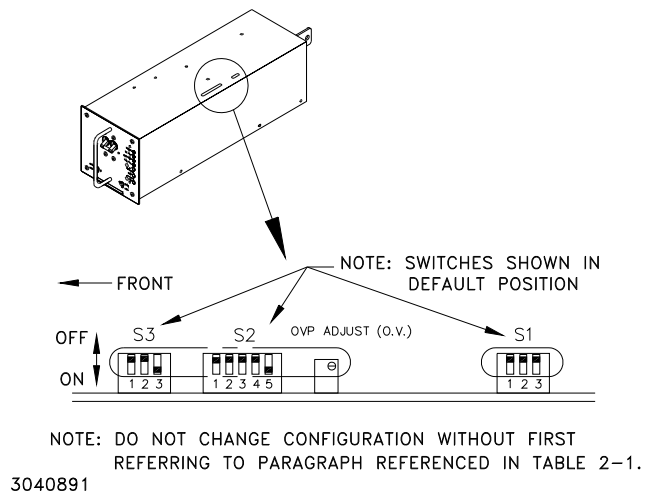

FIGURE 2-2. CONFIGURATION SWITCH FUNCTIONS
b) **Configuration Controls:** Refer to Figure 2-2 and Table 2-1.
5. Verify HSP DIP switch settings are correct (see Table 2-1 and Figure 2-2).
Local, national and international safety rules dictate the grounding of the metal cover and case of any instrument connected to the a-c power source, when such grounding is an intrinsic part of the safety aspect of the instrument. The ground terminal of the source power connector (see Figure 2-2) is connected to the HSP chassis and the instructions below suggest wiring methods which comply with these safety requirements; however, it is the customer's responsibility to ensure that all applicable electric codes for safety grounding requirements are met.